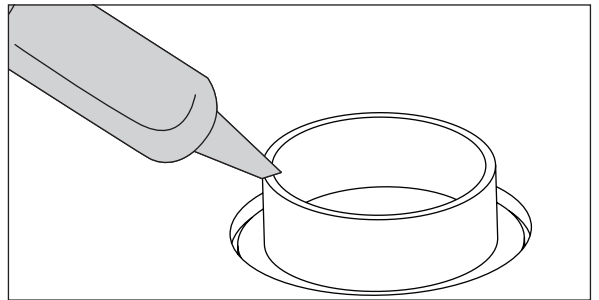

FIG 2 Apply construction adhesive to all feet.
- 3 Apply construction adhesive to all feet and install base into alcove (**Fig 2**).